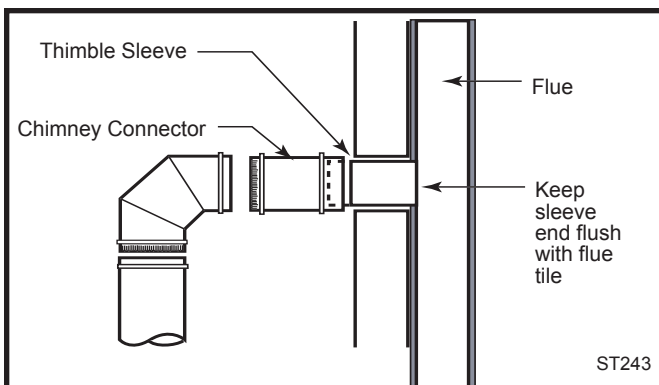

**Fig. 6** An exploded view of the chimney connection in a free-standing masonry installation.
- Fasten the chimney connector to the chimney. Instructions for various installations follow. Figure 6 illustrates the general layout of chimney connector parts.